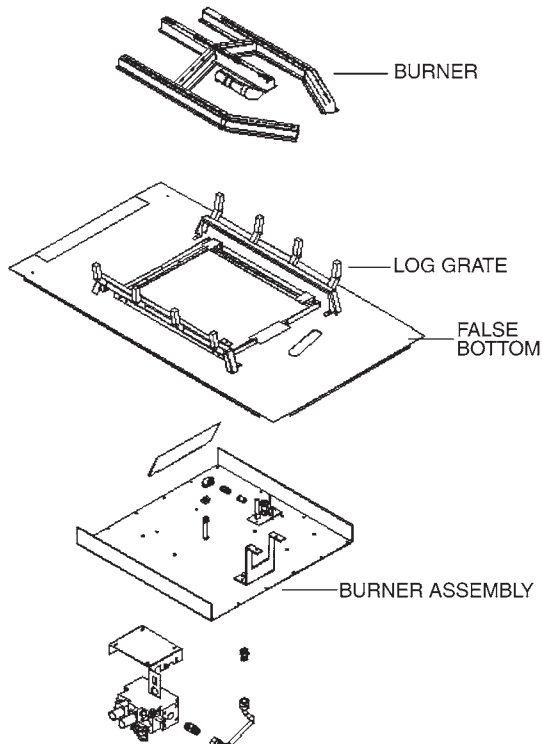

FIGURE 1
2. Remove doors. Remove end, back or side bricks, this depends on type of Fireplace installation. Remove all Crushed Rock and Glowing Embers. Vacuum inside of Fireplace for remaining dust particles. FIGURE 1.